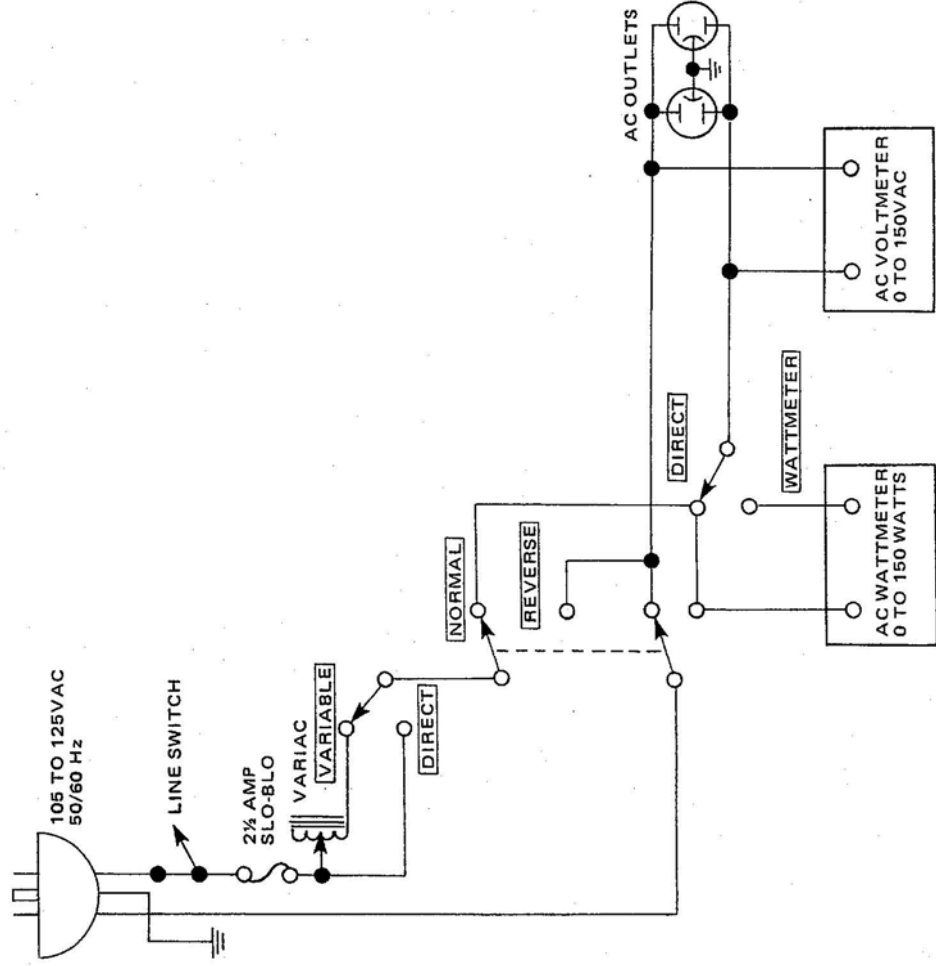
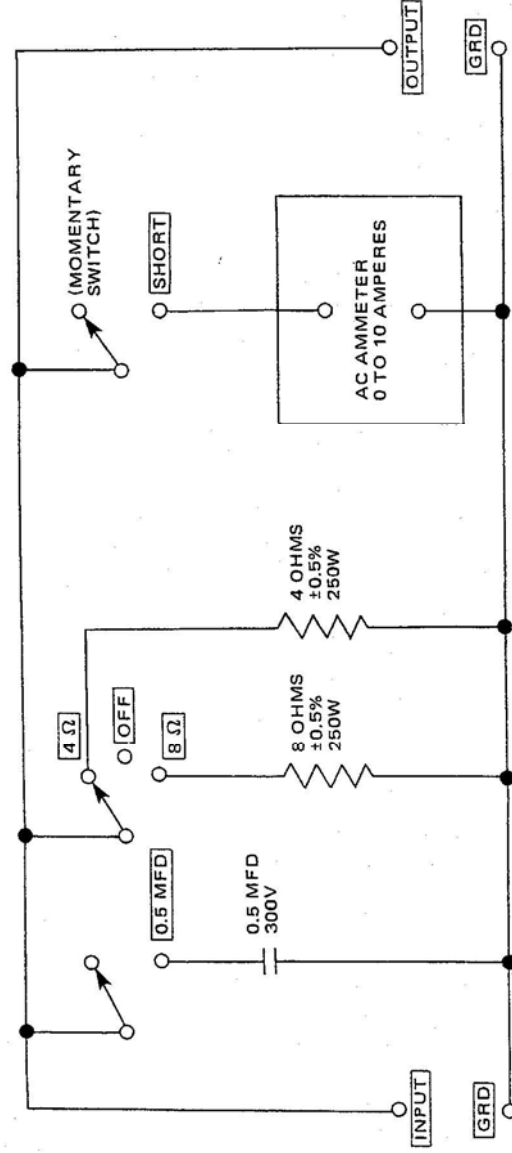

Figure 1. AC Power Control Box Simplified Schematic
Figure 2. Amplifier Output Load Box Simplified Schematic
Table 1 lists the test equipment required for servicing the Model 1090 Stereo Console Amplifier. The wattmeter, AC voltmeter, and variable autotransformer may be assembled as a test fixture as shown schematically in Figure 1. The load resistors and AC ammeter may be assembled into a second test fixture as shown in Figure 2.
1. Make the test setup shown in Figure 1 with the instrument controls set in the following positions: